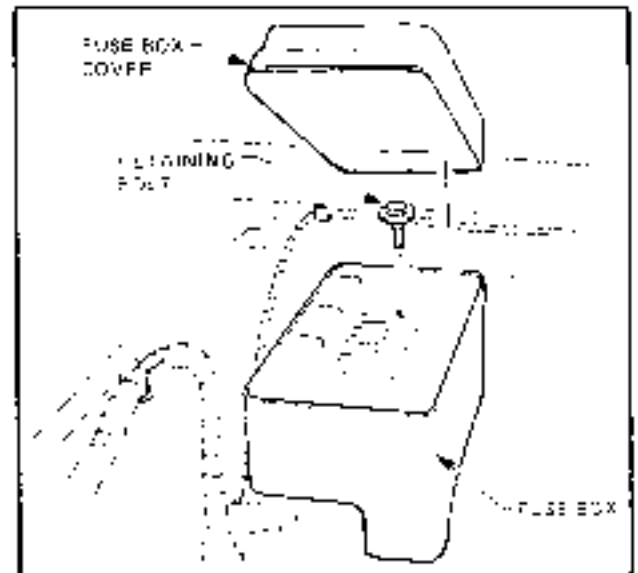

Figure 12E-6
3. Remove retaining bolt, refer Fig. 12E-6.
6. Disconnect all wiring harness connectors, refer Fig. 12E-7.